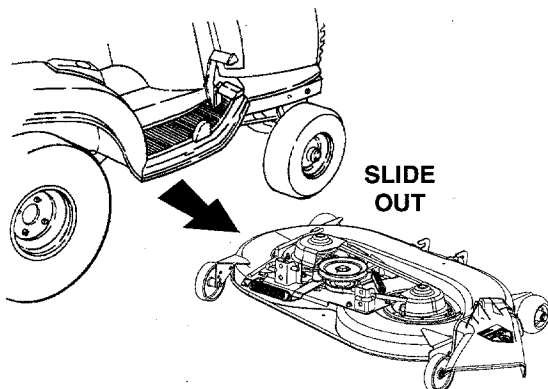

Figure 45
10. With the tractor implement lift handle raised to its highest setting, slide the deck to the right and out from under the tractor (Refer to Figure 45).